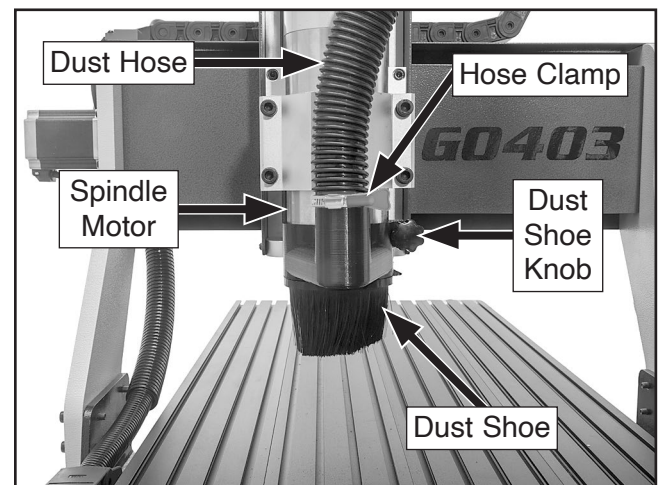

Figure 9. Location of spindle motor dust collection components.
1. Loosen dust shoe knob on dust shoe (see **Figure 9**).
2. Install dust shoe on end of spindle motor and tighten dust shoe knob to secure, as shown in **Figure 9**.
3. Fit 1½" dust hose over dust port and secure in place with hose clamp (see **Figure 9**).